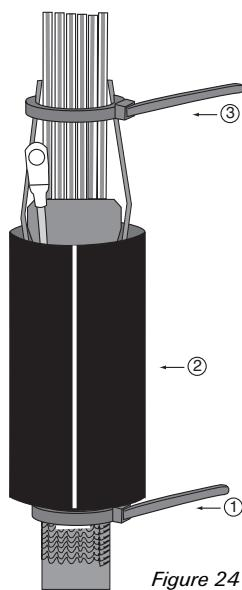

Figure 24
9. Slide the black heat-shrinkable tube with the white stripe down over the adhesive rings. Let the tube slide down and rest on the tie wrap. (Figure 24, steps 1, 2)
10. Remove the tie wrap from step 3 and place a tie wrap around all the transportation tubes and strength members (if present) above the heat-shrinkable tube. (Figure 24, step 3)